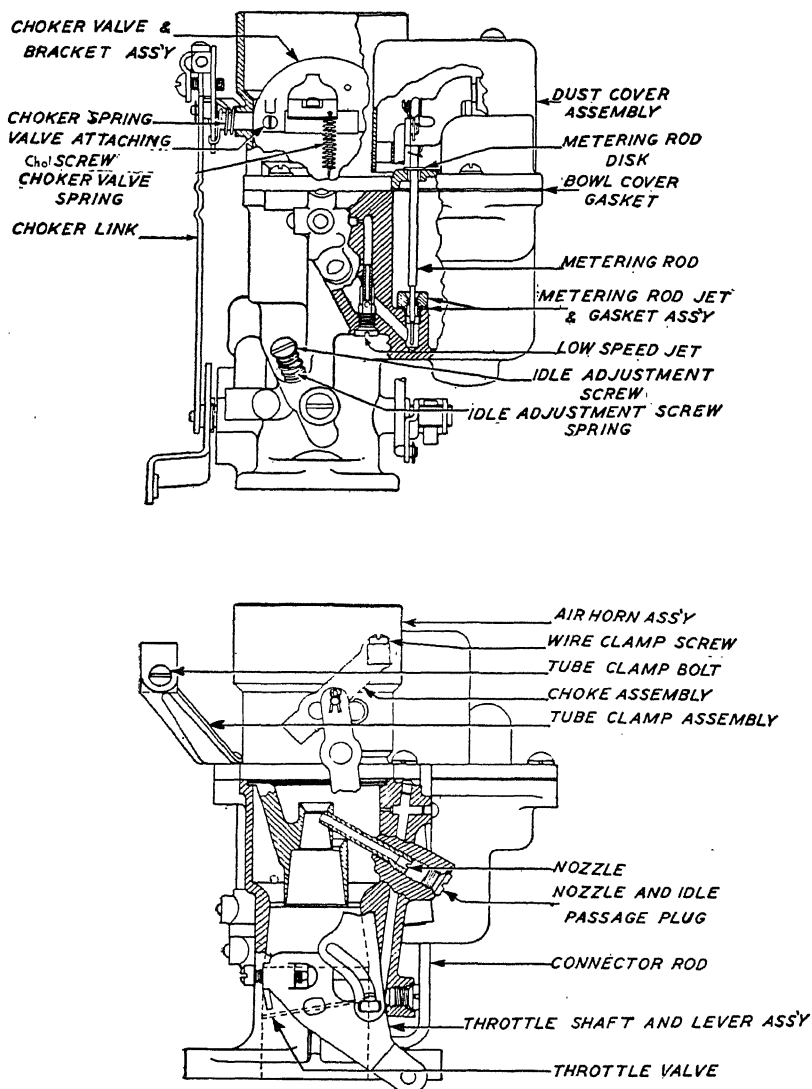

Fig. 147. Pontiac Carburetor in Sectional Views
**Carburetor Adjustment.** A single fuel supply adjustment is provided to regulate the idle. First, set the throttle lever adjusting screw so that the engine runs approximately 360 revolutions per minute or 6 miles per hour idle in high gear on level road. Then set idle adjustment screw, Fig. 147, so that the engine fires evenly without loping or stalling. The correct setting is one-half to one full turn open. Turning the screw in gives a leaner mixture, and vice versa.